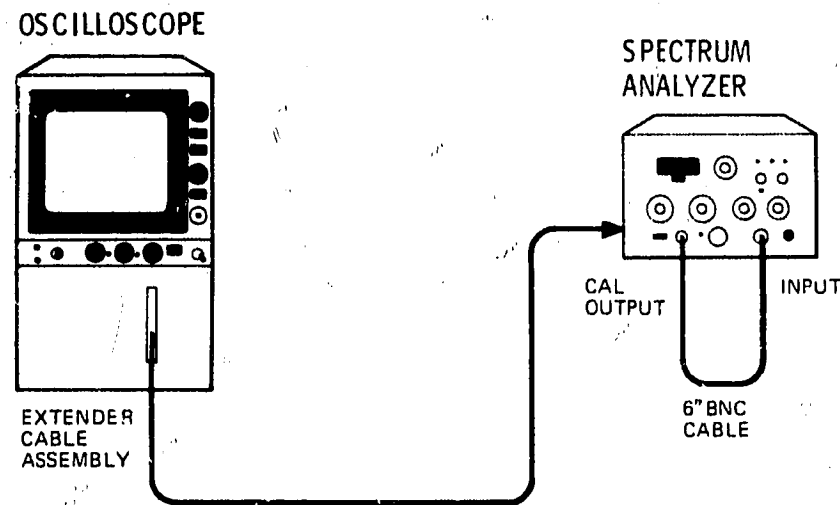

Figure 5-11. 1 dB Offset Adjustment Test Setup
2. Connect equipment as shown in Figure 5-11.